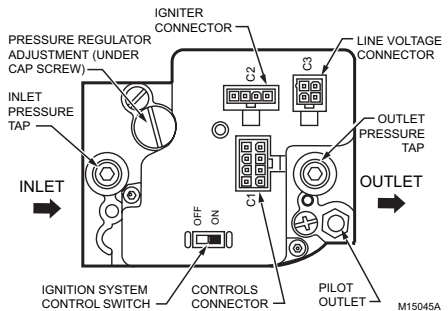

Fig. 4. Top view of ignition system control.
6. Connect the pipe to the ignition system control inlet and outlet. Use a wrench on the square ends of the ignition system control. If a flange is used, place the wrench on the flange rather than on the ignition system control. Refer to Fig. 4 and 5.
- 2. With main burner operating, check the ignition system control flow rate using the meter clocking method or check pressure using a manometer connected to the outlet pressure tap on the ignition system control. See Fig. 4.